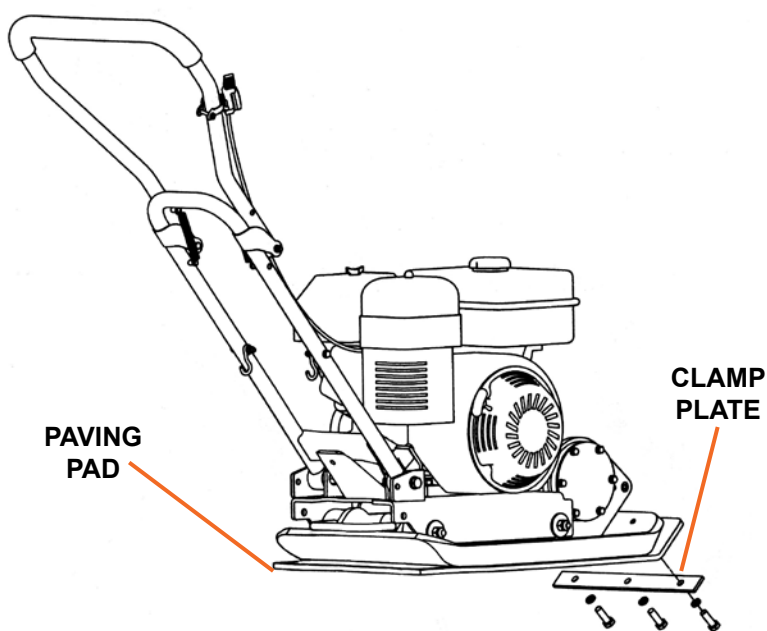

Figure 4
1. Align the holes in the paving pad with the holes in the clamp plate on the compactor's base plate. Secure with hex bolts (M10x30mm) and flat washers in three places (see Figure 4).